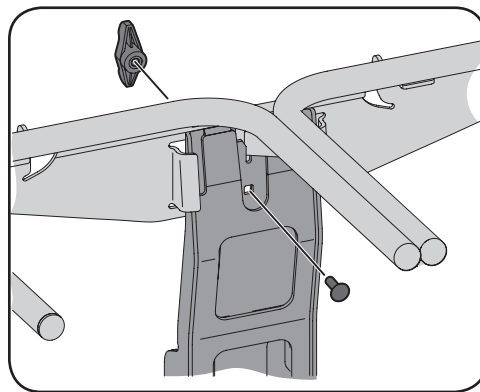

Figure 4-11
4. Install the hanger assembly onto the upright support bracket using a carriage bolt (710-0276) and wing knob (720-04122) from hardware pack 689-00328A. See Figure 4-11.